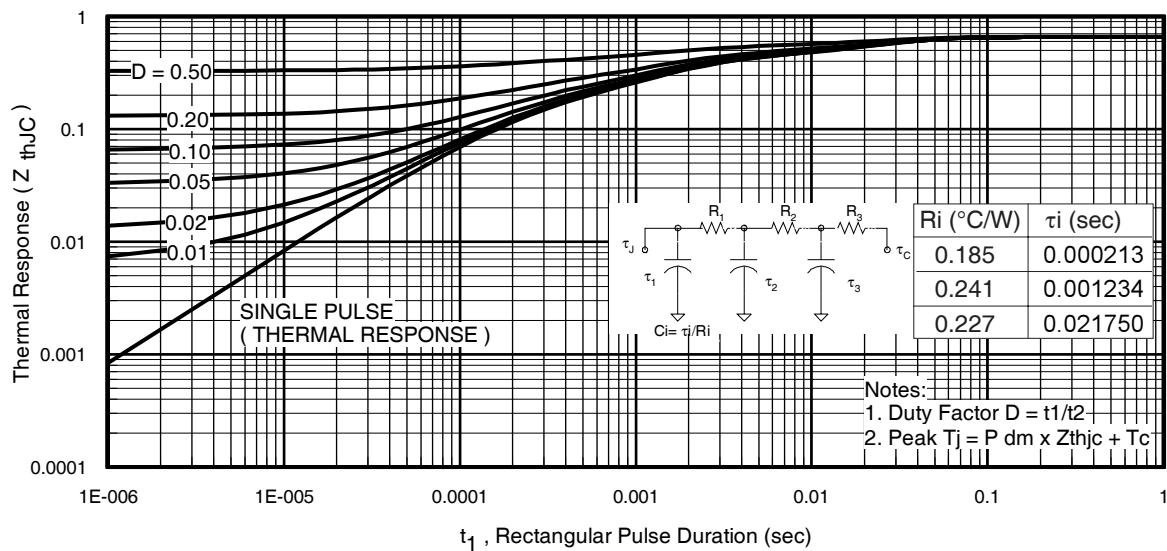
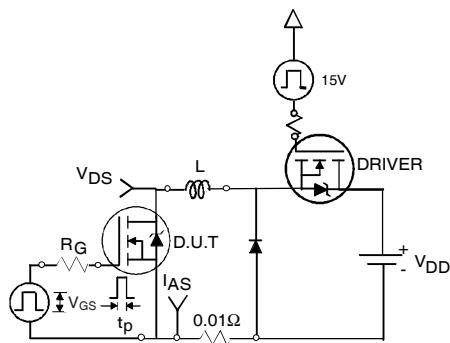

Fig 11. Maximum Effective Transient Thermal Impedance, Junction-to-Case
Fig 12a. Unclamped Inductive Test Circuit
- ① Repetitive rating; pulse width limited by max. junction temperature. (See fig. 11).
- ② Limited by $T_{J\text{max}}$, starting $T_J = 25^\circ\text{C}$, $L = 0.079\text{mH}$, $R_G = 25\Omega$, $I_{AS} = 75\text{A}$, $V_{GS} = 10V$. Part not recommended for use above this value.
- ③ Pulse width $\leq 1.0\text{ms}$; duty cycle $\leq 2\%$.
- ④ $C_{oss \text{ eff.}}$ is a fixed capacitance that gives the same charging time as C_{oss} while V_{DS} is rising from 0 to 80% V_{DSS} .
- ⑤ Limited by $T_{J\text{max}}$, see Fig.12a, 12b, 15, 16 for typical repetitive avalanche performance.
- ⑥ This value determined from sample failure population. 100% tested to this value in production.
- ⑦ This is only applied to TO-220AB package.
- ⑧ When mounted on 1" square PCB (FR-4 or G-10 Material). For recommended footprint and soldering techniques refer to application note #AN-994.
3. Equation below based on circuit and waveforms shown in Figures 12a, 12b.
$Z_{thJC}(D, t_{av})$ = Transient thermal resistance, see figure 11)